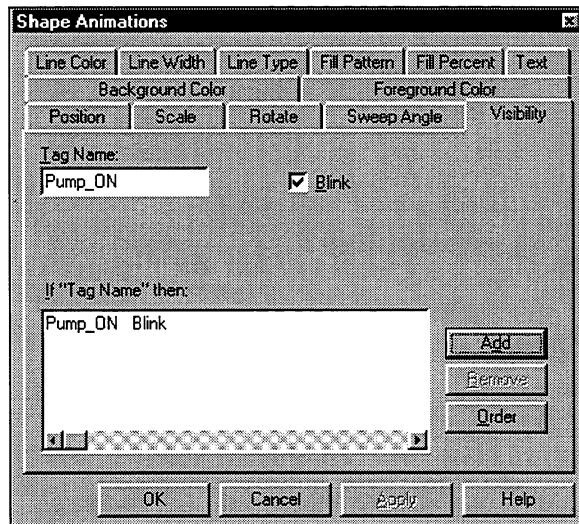

Figure 4-24. Configuring a Visibility Animation
8. Click Add to add the animation to the list box, as shown in Figure 4-24.